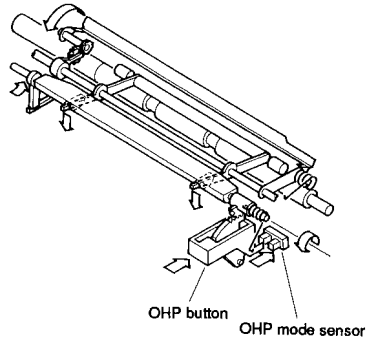

Figure 3-418
- The feeder motor starts to rotate forward; the drive of the motor is transmitted to the manual feed shaft, and the boss rotates in the direction of the arrow shown in Figure 3-418. At the same time the delivery guide returns to its original position, and the MANUAL FEED key is released.